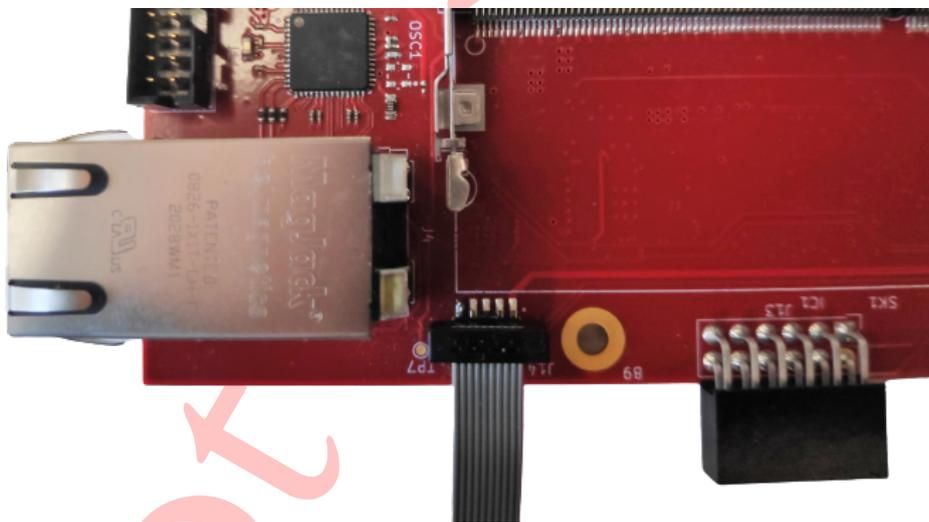

Figure 3: J14 connector.
1. Connect JTAG module to **J14** as shown on Figure 3.